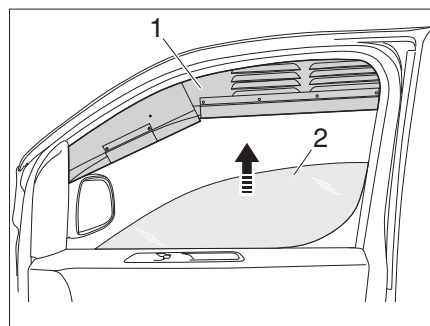

Fig. 9 Inserting ventilation grills
- ▷ The ventilation grill (Fig. 9,1) is stored in the bag at the bench seat bed.
- Wind down the side window (Fig. 9,2).
- Insert the ventilation grill (Fig. 9,1) in the top of the window frame.